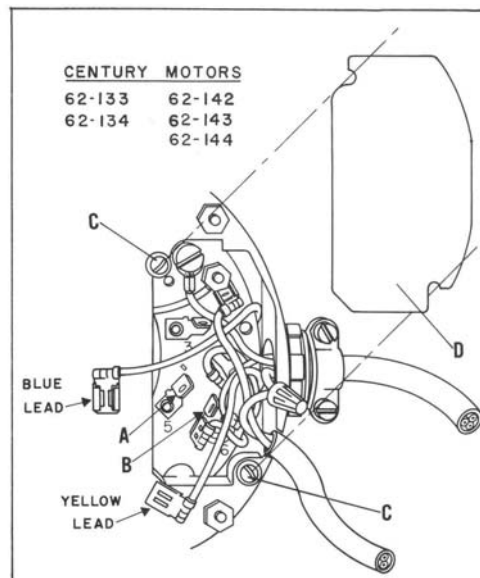

Fig. 2
3. If your motor is manufactured by Century Electric Division of Gould Inc., refer to Fig. 2. Loosen two screws (C) and remove the motor junction box cover (D) Fig. 2. Interchange the blue and yellow leads on terminals (A) and (B). These leads have spade type terminal clips that are slipped off the terminals (A) and (B) and interchanged, as shown in Fig. 2.